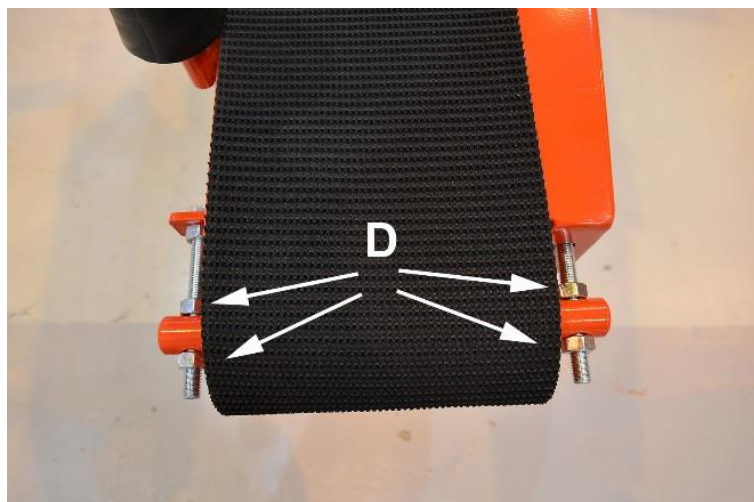

Figure 34.
9. Turn the conveyor back to the operating position and tighten the belt. Use adjustment nuts D (Figure 34) to adjust the belt.